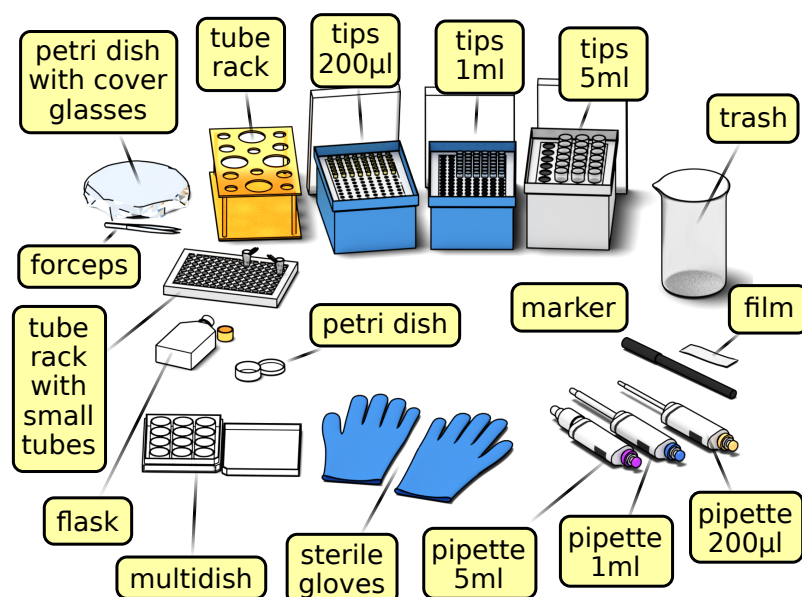

Fig. 4.4. The full set of tools required to transfer cells
- 1.3. Check for the required equipment, tools, etc (see table 4.2 and fig. 4.4)
- 1.5. Turn on the Biological Safety Cabinet (BSC) and put there tools and equipment (see table 4.2). Don't forget to open containers as shown at fig. 4.4). Put the gloves into the BSC at last, obviously